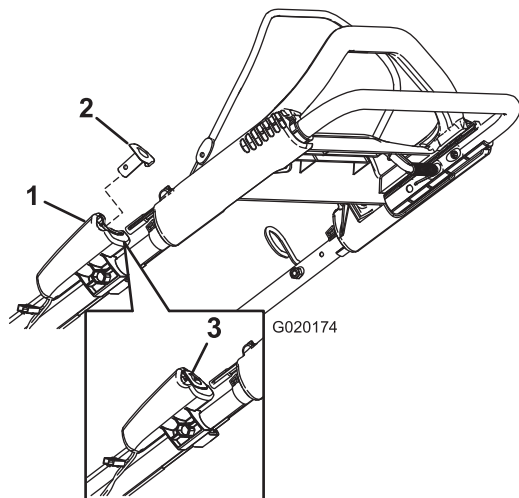

**Figure 11**
1. Hold the blade-control bar against the handle (Figure 11).